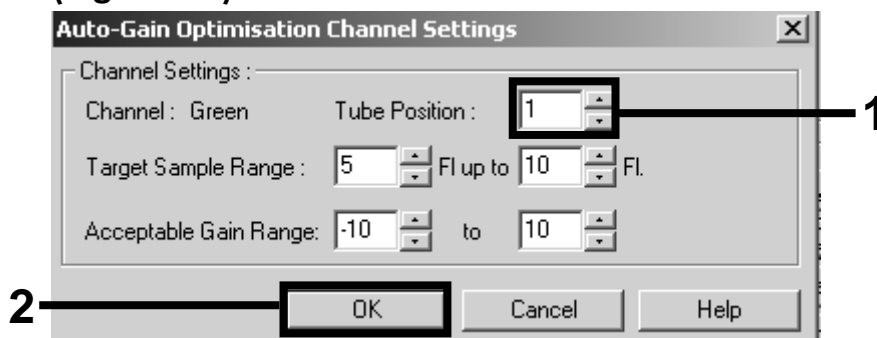

Figure 16. Setting the tube position.
10. Set the tube position for a tube for the first *artus* assay (e.g., CMV). Set the tube position for all fluorescence channels, and click "OK" (Figure 16).